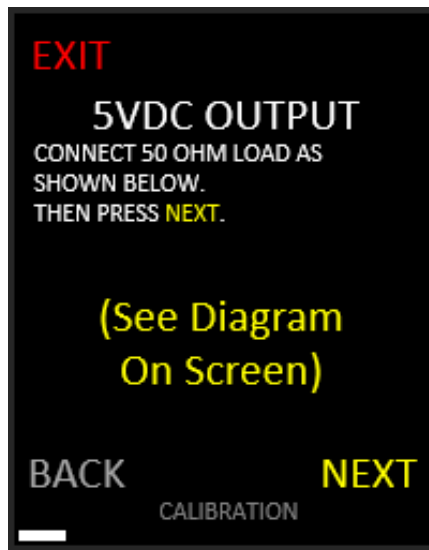

Figure 9. 5VDC Output Setup
6.2 Select NEXT to continue (Figure 9).